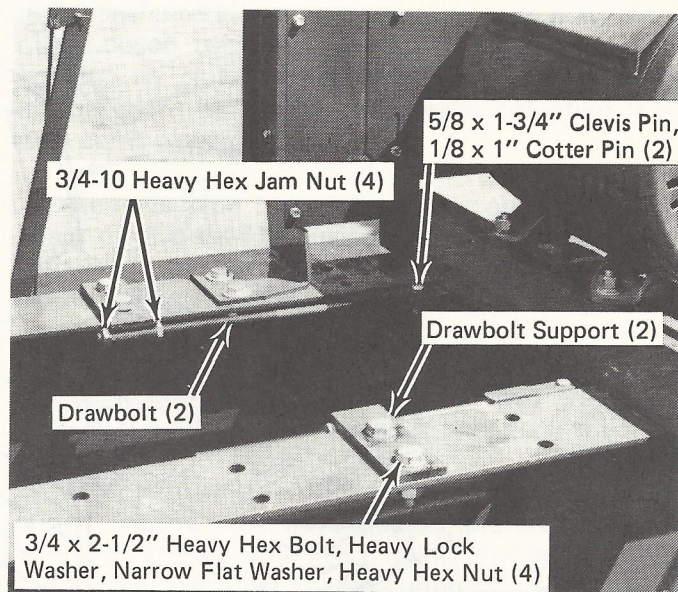

Figure 18
19. With motor and belts approximately aligned, install drawbolt and drawbolt support as shown in figure 18. Adjust jam nuts on drawbolts to tension belts as specified by the belt manufacturer. Take deflection and force reading in mid-span of belt. During belt tensioning, make final sheave alignment: grooves of
- 1 Electric Motor – 5/8 x 2-1/2" Square Head Bolt, Heavy Lock Washer, Heavy Hex Nut (12)
- 2 Gas Engine – 3/4 x 3" Square Head Bolt, Heavy Lock Washer, Heavy Hex Nut (16)
- 3 Gas Engine – 7/8 x 4" Square Head Bolt, Lock Washer, Hex Nut (6). Optional to 2.
Drawbolt Support Attachment Holes Attach supports per figure 18.